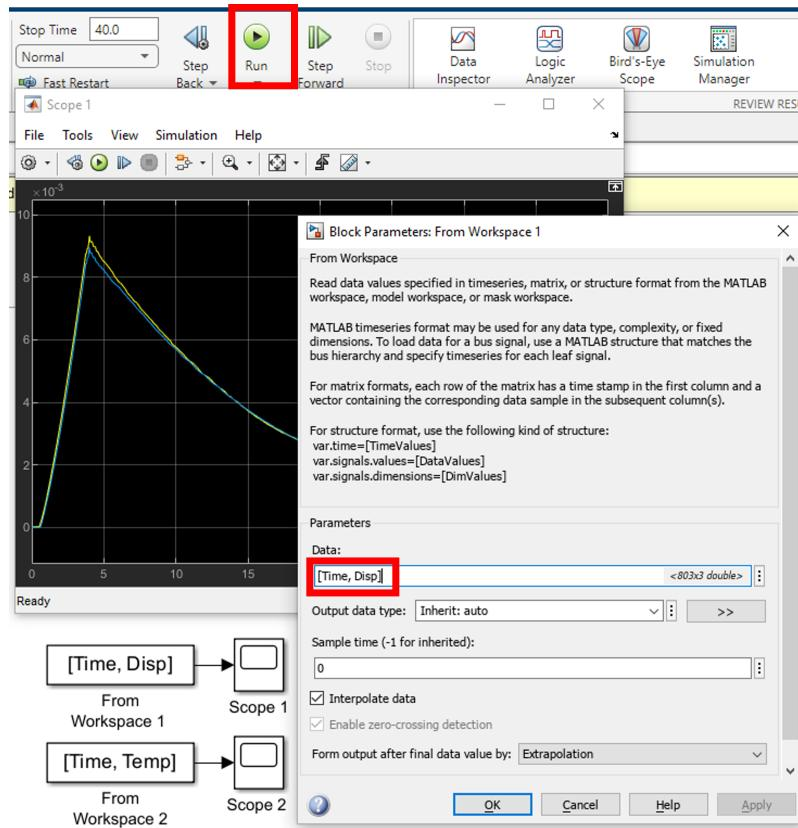

Figure 4: SIMULINK visualize experimental data
2. Open the From workspace block and update the data parameter as follows. **[Time, Disp]**. (Refer Figure 4).